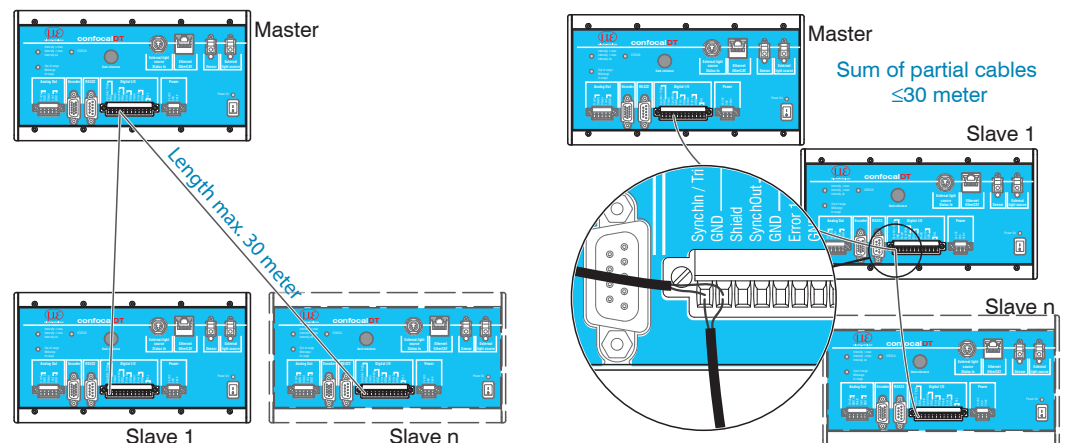

Fig. 13 Synchronization of more controllers, star synchronization (left), cascaded (right)
- Connect the SyncOut output of controller 1 (master) in star configuration with the SyncIn inputs from controller 2 (slave) to Controller n, in order to synchronize two or more controllers, see Fig. 13.
- Connect the SyncOut output of controller 1 (master) with the SyncIn inputs of controller 2 (slave 1). Connect the SyncIn inputs of downstream controllers in order to synchronize two or more controllers, see Fig. 13.